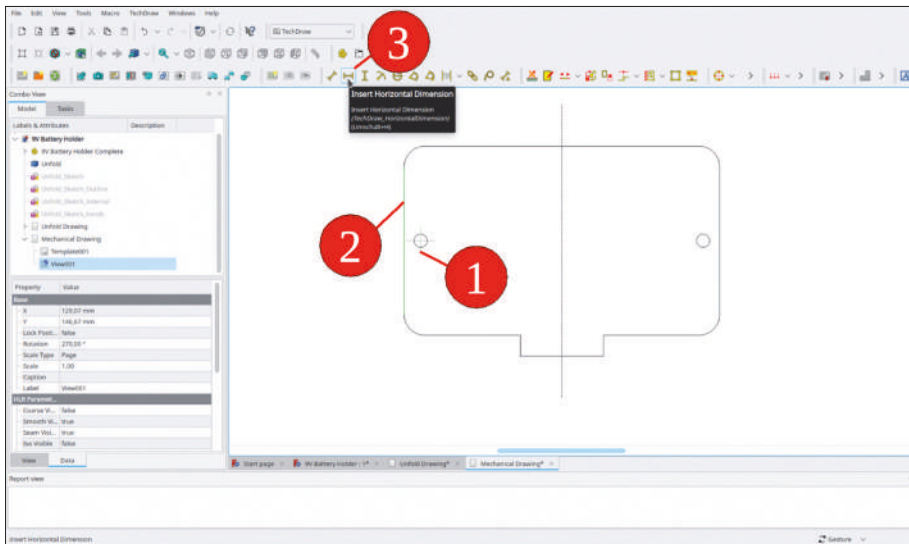

Figure 5-37
7. Mark the vertical edge close to the hole, and the vertical center line of the hole. Then, click the 'Insert horizontal dimension' tool button (Figure 5-37). Drag the dimension to a free space underneath the part contour. In order to move a dimension, drag on the image itself, not on arrows or leader lines.